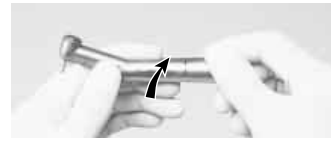

Fig.19
- ④ Screw the tapered body securely back onto the handpiece. (Fig.19)